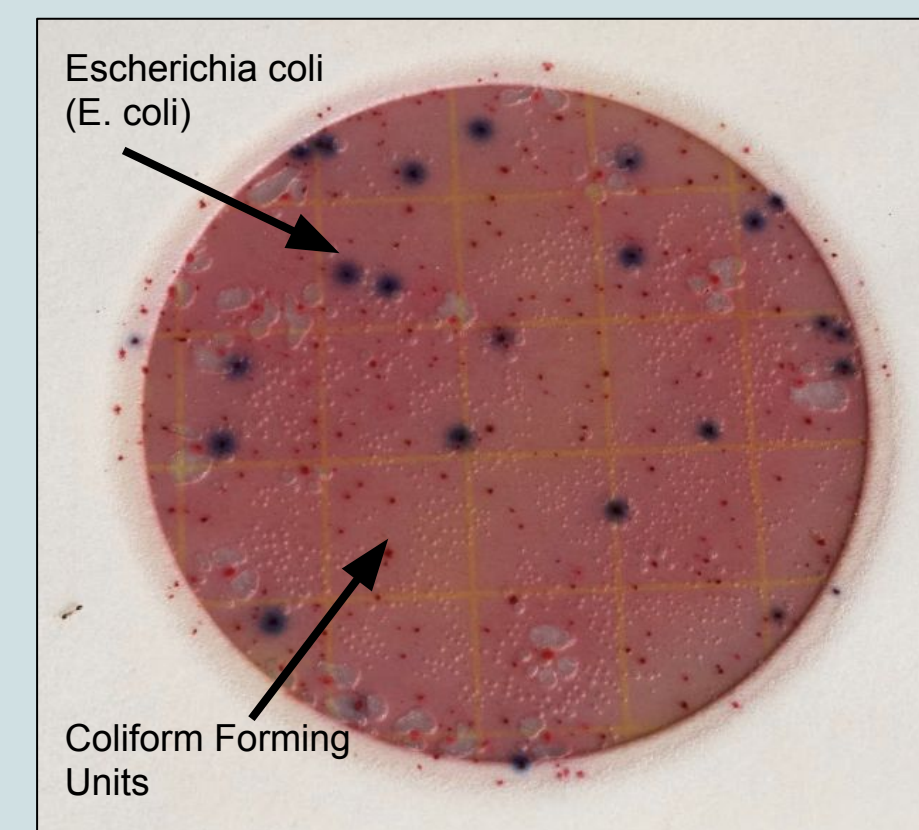

Figure 5: Petrifilm Results from Tap Water
- E. coli was found in water and can cause illness (Fig. 5)